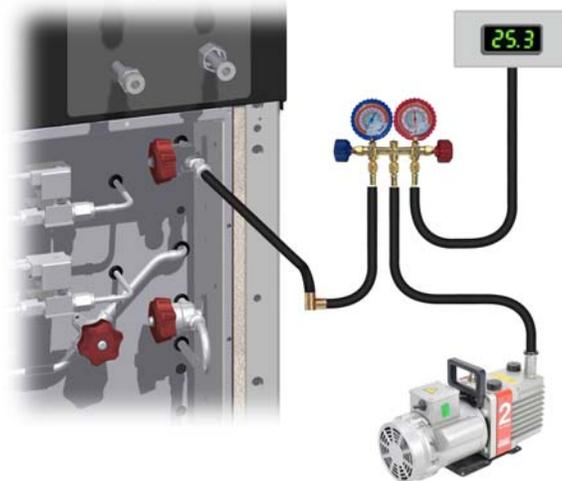

Figure 4-24: Cold Valve Box Setup to Evacuate Refrigerant Line and Cryosurface
1. Connect the vacuum pump, vacuum gauge, and service manifold. See Figure 4-24.